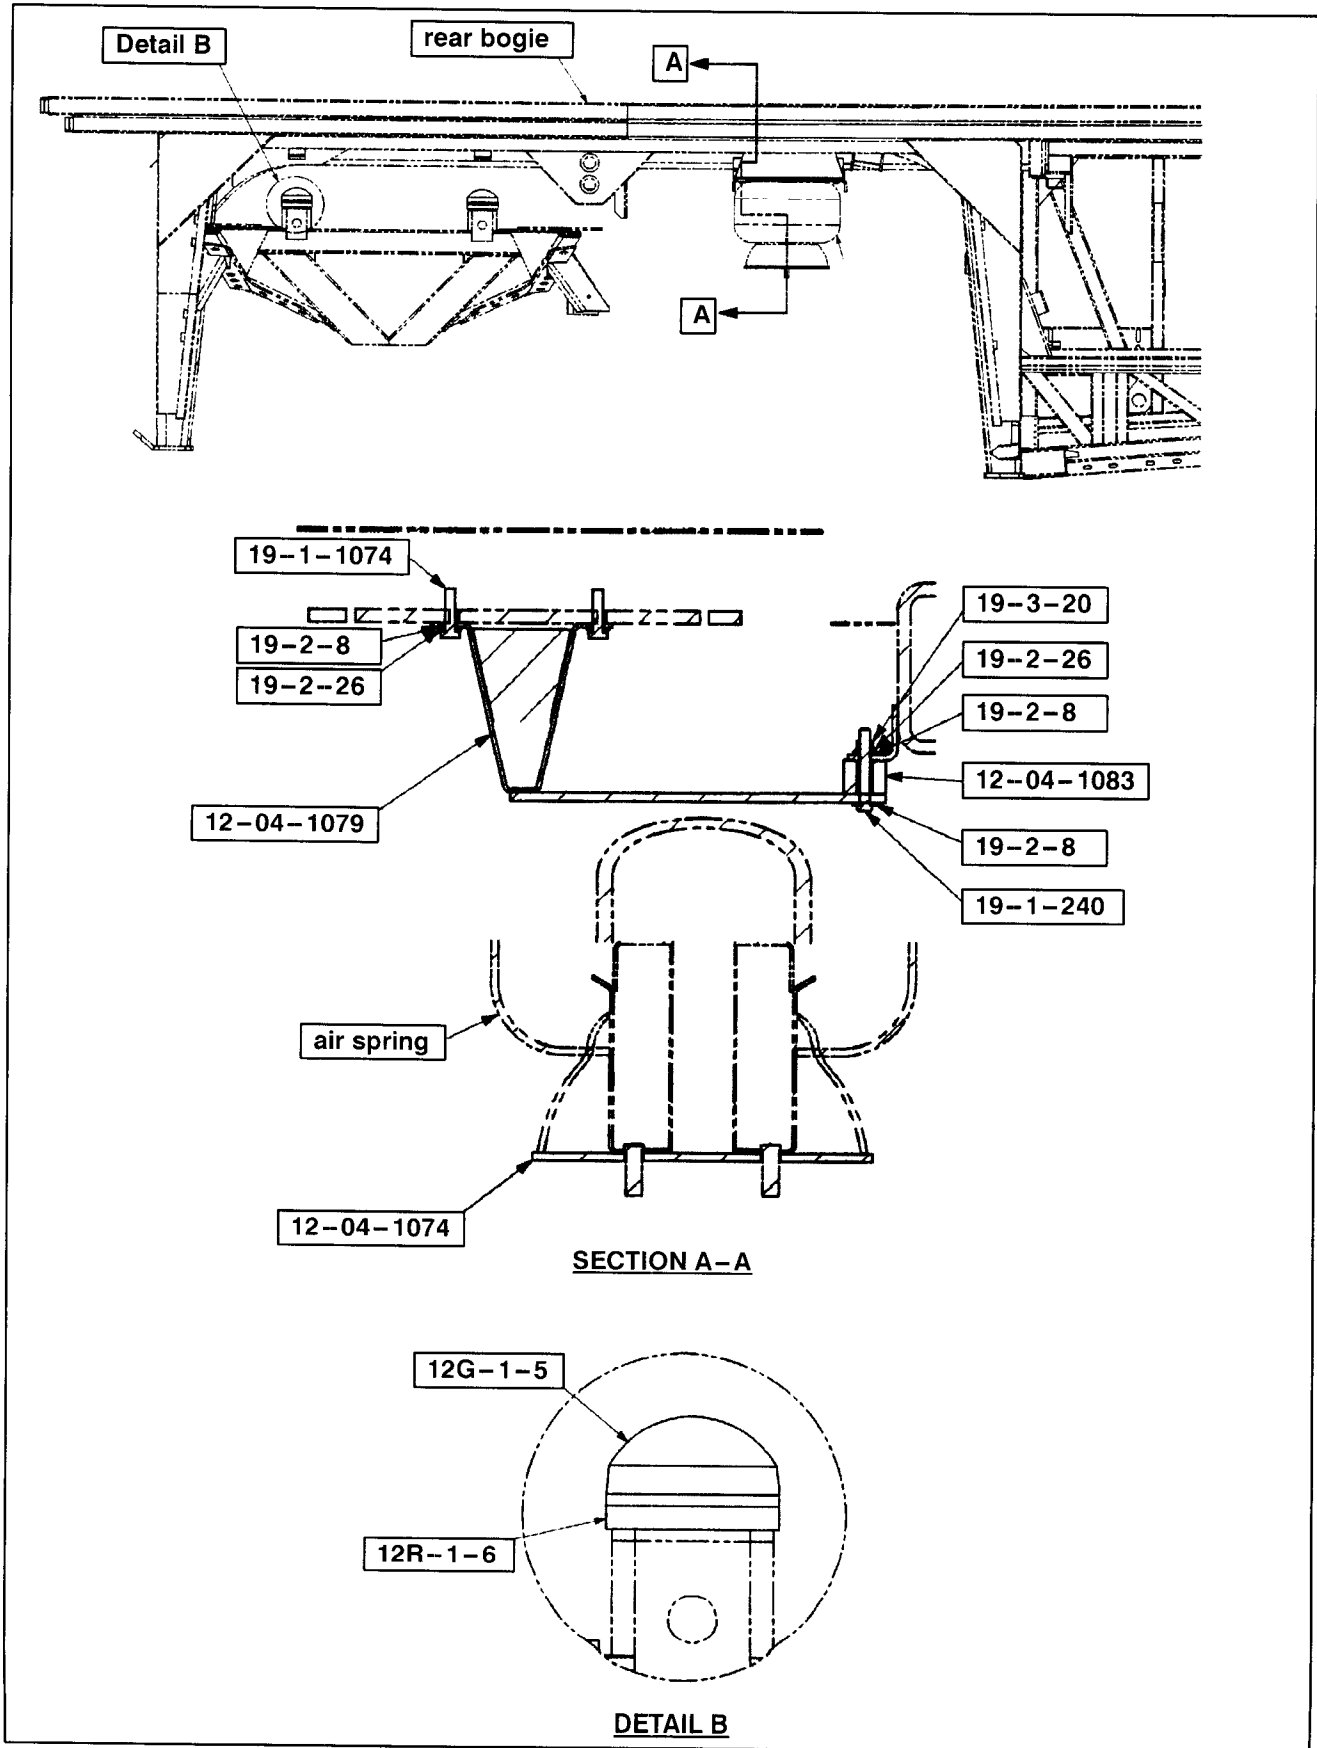

Figure 5.
14. Install the new rubber bumper (p/n 12G-1-5) and bumper block spacer (p/n 12G-1-6) (Detail B / Figure 5).
16. Install the new plate assembly (p/n 12-04-1079) and spacer (p/n 12-04-1083) in the locations shown in Figure 5. , using the new plate assembly mounting hardware provided in the Parts list. Torque nut (p/n 19-3-314) to 18–22 ft.-lbs.
17. Align and position the spacer (p/n 12-04-1074) in the location shown in Figure 5.